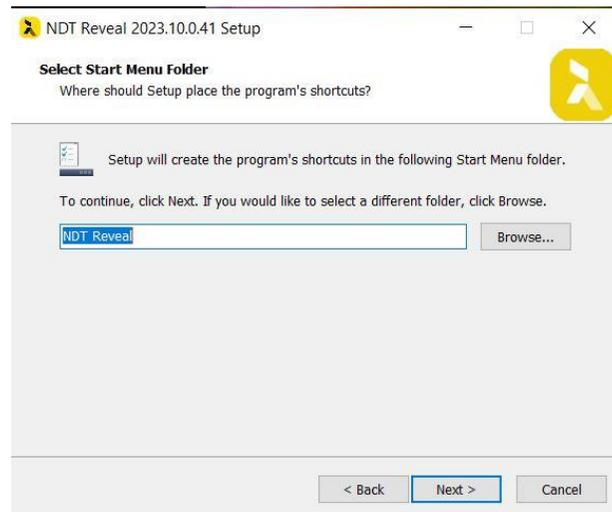

Fig. 4 Select Shortcut location
4. Select Start Menu folder location and press NEXT (Fig. 4),